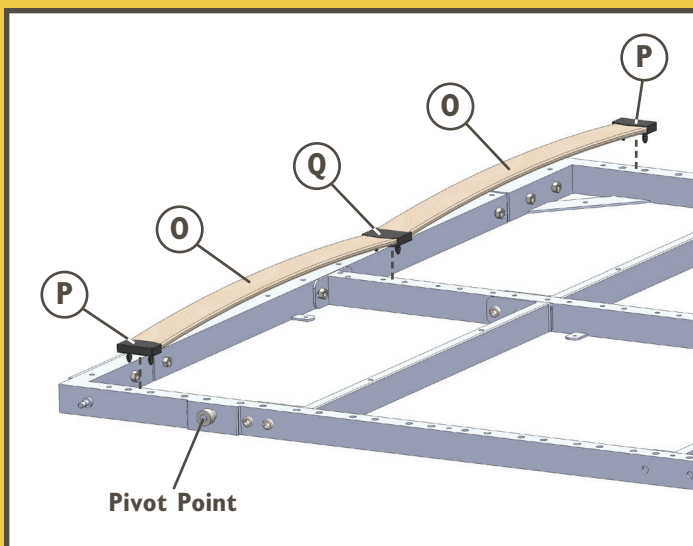

Fig. 8
1. Start at the head of the bed, nearest the pivot points on the Left/Right Sides of the Frame (A).
2. Take two Slats (O) and place a Slat Cap (P) on one end of each. Connect them by inserting the other ends in a Double Slat Cap (Q).
3. Install the slats on the frame by inserting the pins on the Slat Caps (P) and Double Slat Cap (Q) into the corresponding mounting holes in the frame. You might need to bend the Slats slightly and use a rubber mallet to tap the Slat Caps and Double Slat Cap into place. **Fig. 8.**